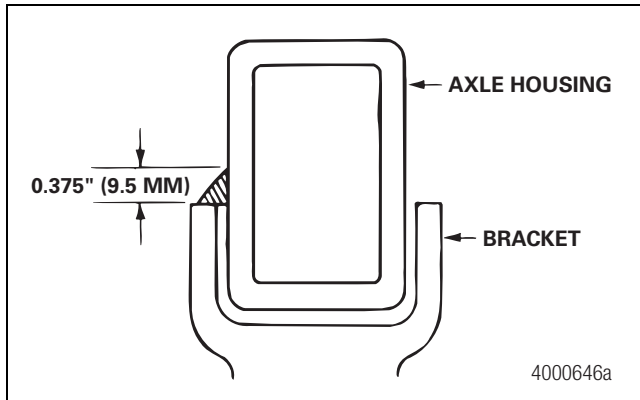

Figure 3.27
- B. Lay the first fillet weld 0.375-inch (9.5 mm) in a single pass. The tolerance of the fillet welds must be +0.050-inch/-0.0-inch (+1.27 mm/-0.0 mm). Work toward the inboard end. If the weld is larger than this dimension, there may not be enough clearance for the slack adjuster. Figure 3.27.